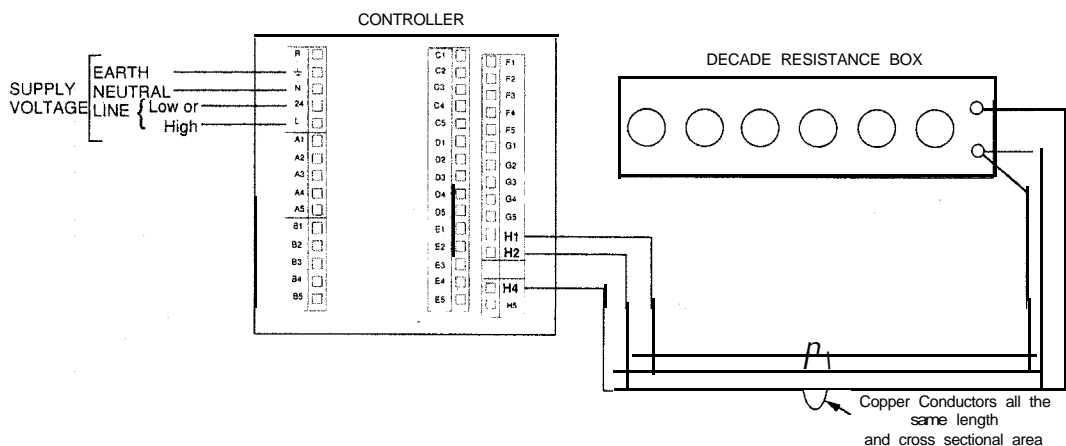

Figure 3 Instrument connections for r_{tL} and r_{th} calibration procedure.
- 1) Connect the input of the instrument to a decade resistance box as shown in Figure 3.